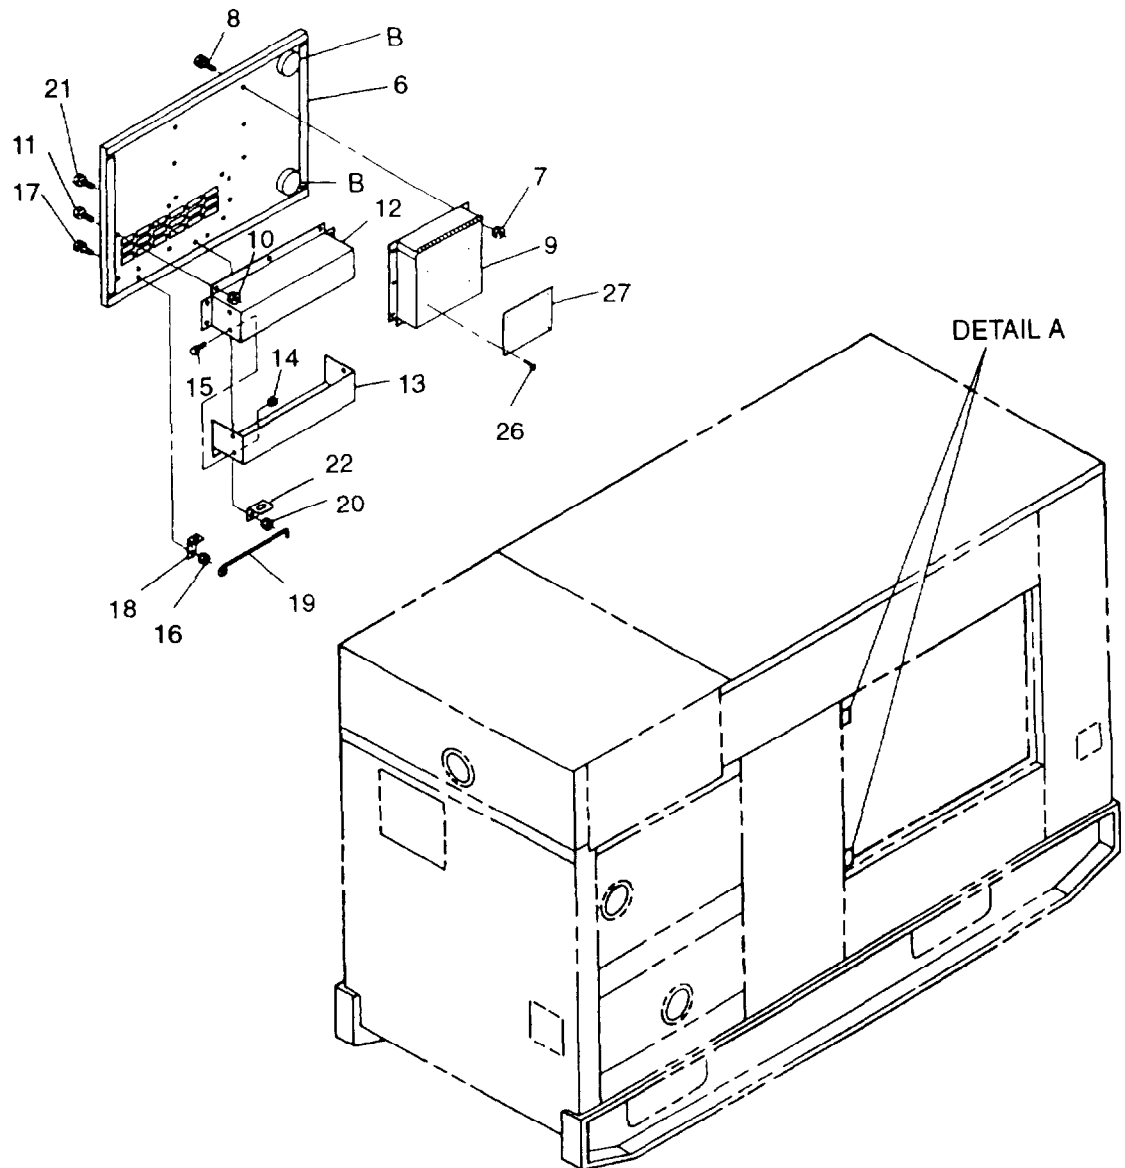

FIGURE 2-5. Generator Set Access Doors
- c. Remove nuts (1, FIGURE 2-5), lockwashers (2), bolts (3), washers (4), and hinges (5).
- d. Remove left side engine access door (6) from generator set.
- e. Remove assembled nuts (7), bolts (8), and document box (9).
- f. Remove assembled nuts (10), bolts (11), upper air baffle (12), and lower air baffle (13) from engine access door (6).
- g. Remove assembled nuts (14) and bolts (15) to separate air baffles(12) and (13).
- h. Remove assembled nuts (16), bolts (17), bracket (18), and holding rod (19) from engine access door (6).
- i. Remove assembled nuts (20), bolts (21), and bracket (22) from engine access door (6).
- j. Remove assembled nuts (23), screws (24), and latches (25) from engine access door (6).
- k. Drill out rivets (26), and remove fuel system diagram plate (27) from document box (9).
- a. Install latches (25, FIGURE 2-5) in left side engine access door (6) with screws (24) and assembled nuts (23).
- b. Install bracket (22) on engine access door (6) with bolts (21) and assembled nuts (20).
- c. Install bracket (18) and holding rod (19) on engine access door (6) with bolts (17) and assembled nuts (16).
- d Assemble top air baffle (12) to bottom air baffle (13) with assembled nuts (14) and bolts (15).
- e Install air baffles (12) and (13) on engine access door (6) with bolts (11) and assembled nuts (10)
- f. Install fuel system diagram plate (27) on document box (9) with rivets (26).
- g Install document box (9) with bolts (8) and assembled nuts (7).
- h Install right side engine access door (6) and hinges (5) on generator set with bolts (3), washers (4), lockwashers (2), and nuts (1).